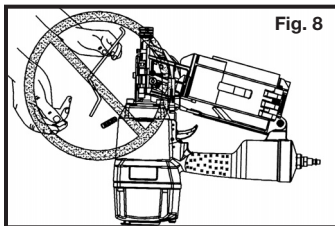

Fig. 8
13. **Never use a tool** that is leaking air, has missing or damaged parts, or requires repair. Make sure all screws and caps are securely tightened. Fig. 8.
14. **Never use tool if safety, trigger or springs** are inoperable, missing or damaged. Do not alter or remove safety, trigger, or springs. Make daily inspections for free movement of trigger and safety mechanism. Fig. 8.